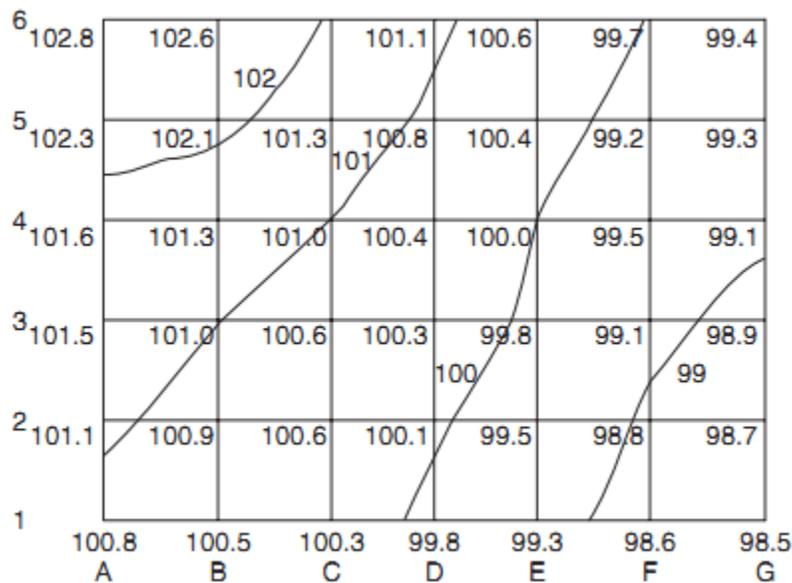

Figure 1: Grid Contouring
5. Then **grid square** is plotted on the drawing sheet. Reduced levels of grid points marked and contour lines are drawn by interpolation [Ref. Fig. 1].